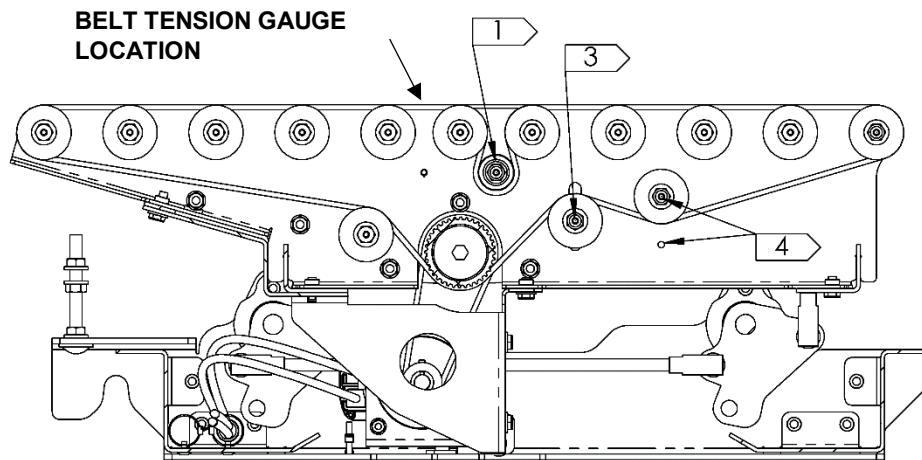

Figure 14-Side View of Pop-Up Transfer Blades (Routing A)
4. Release blade belt tension on each blade by loosening the tensioner pulley and sliding it down. The tensioner pulley is indicated by flag note 3 in Figure 14 and Figure 15.
- b. Tensioner gauge should be placed as shown in Figure 14 or Figure 15 depending on routing.
- c. If additional tensioner travel is needed, move the idler pulley indicated by flag note  in Figure 14 and Figure 15, to the lower of the (2) indicated holes.
12. Seat the drive belt into the grooves of the drive pulley, then evenly pull the motor and motor mount down to tension the belt. Tighten the (4) 1/4"-20 bolts once correct tension is achieved.
7. Re-route the replacement blade belt following the routing in Figure 14 for "A" routings, or the routing in Figure 15 for "B" routings.
3. Release blade belt tension on the blade needing pulley replacement by loosening the tensioner pulley and sliding it down. The tensioner pulley is indicated by flag note  in Figure 14 and Figure 15.
5. Verify the belt routing following the routing in Figure 14 for “A” routings, or the routing in Figure 15 for “B” routings.